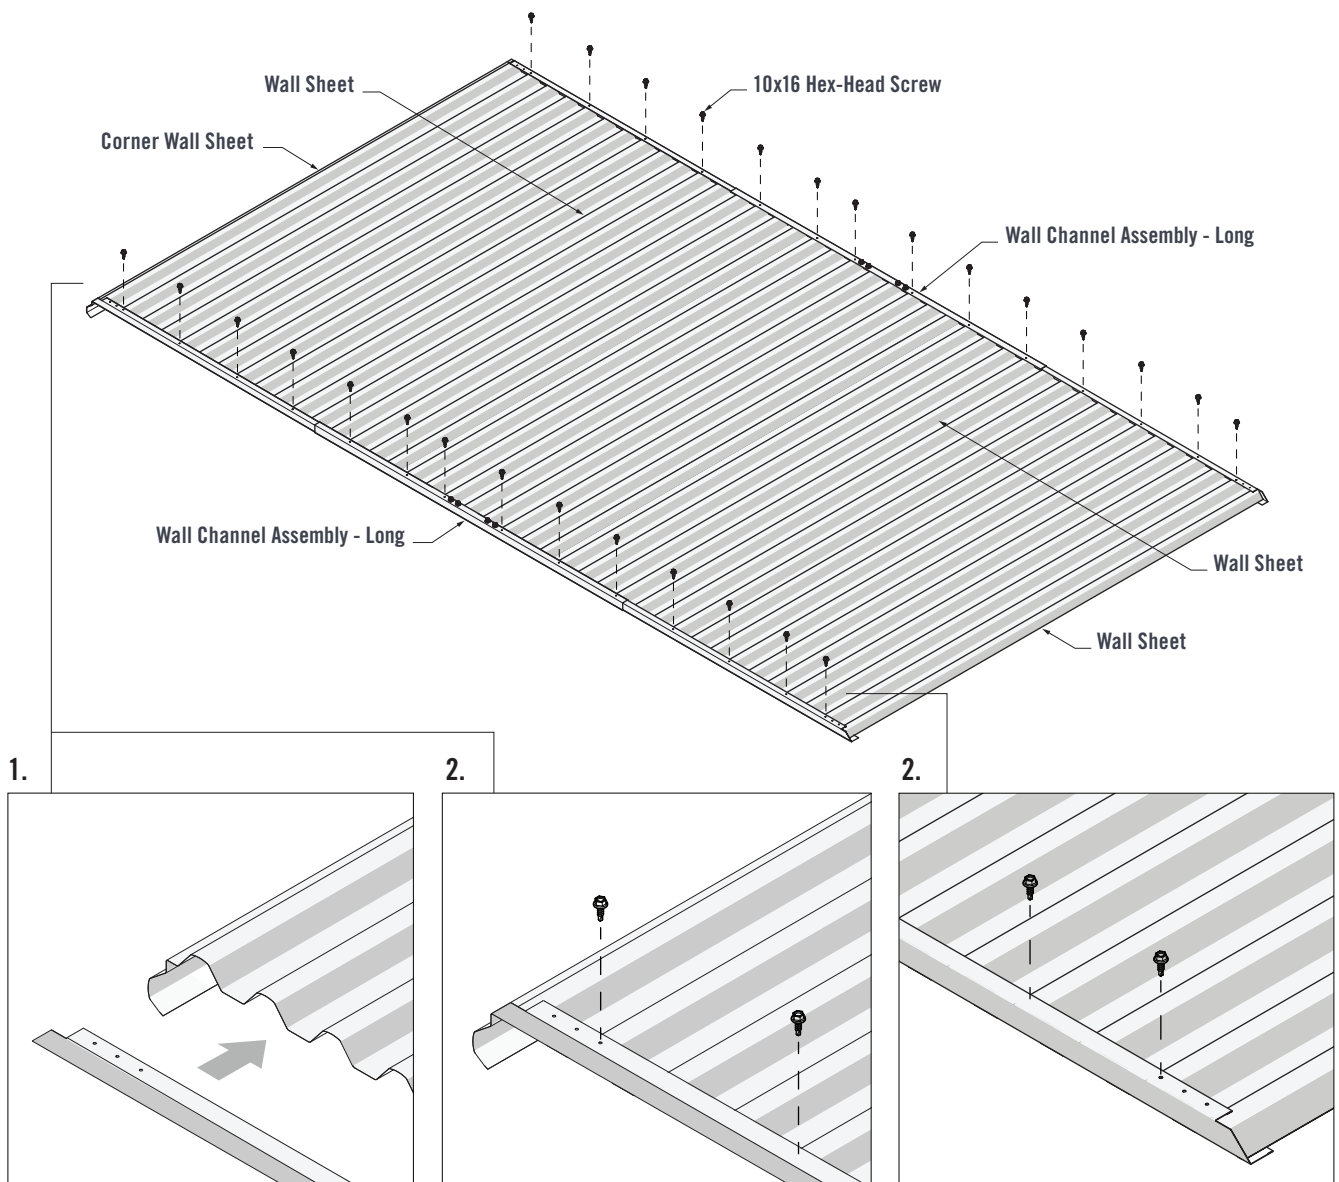

FIGURE 3.2
1. Fit the Wall Channel Assembly (Long) over the lapped Wall Sheets. The end of the Wall Channel should fit up against the end of the Corner Wall Sheet (Figure 3.2).
2. Wall Channels have three pilot holes in each end. Fasten through the third pilot hole of both Wall Channel ends and into the Wall Sheet crests. Fasten through the Wall Channel Assemblies and into every third Wall Sheet crest using twelve 10x16 Hex-Head Screws in each Wall Channel Assembly (Figure 3.2).